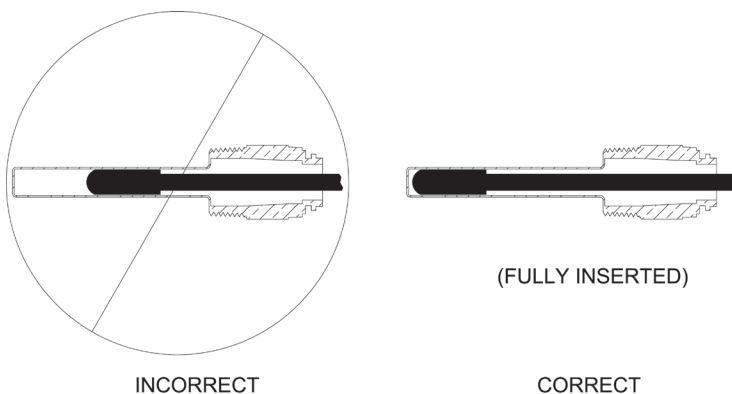

Figure 11: Limit Sensor Insertion
3. On boilers with rear tankless heater, factory wired Honeywell L7224C Control was not installed in heater. Locate 3/4" NPT immersion well, apply sealant and thread into 3/4" NPT tapping on heater. Apply heat transfer paste (not furnished) to limit sensor and fully insert limit sensor into immersion well such that the tip on the limit sensor touches the bottom of the immersion well. See Figure 11. Tighten clamp screws to secure control to immersion well. Secure control conduit to jacket right side panel with 5/8" cable clamp provided, refer to Figure 1B.